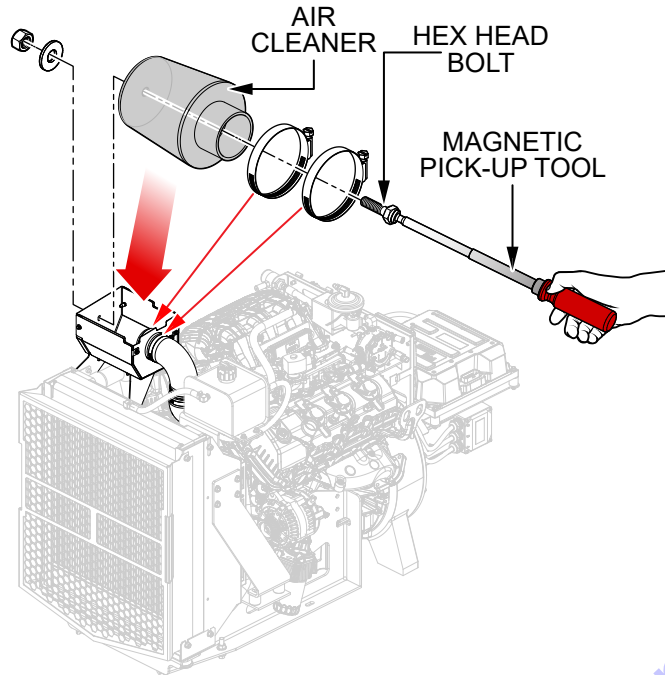

Figure 57. Air Cleaner Installation
1. Using a magnetic pick-up tool, insert the hex head bolt that was removed earlier through the hole in the air cleaner from the inside (Figure 57).